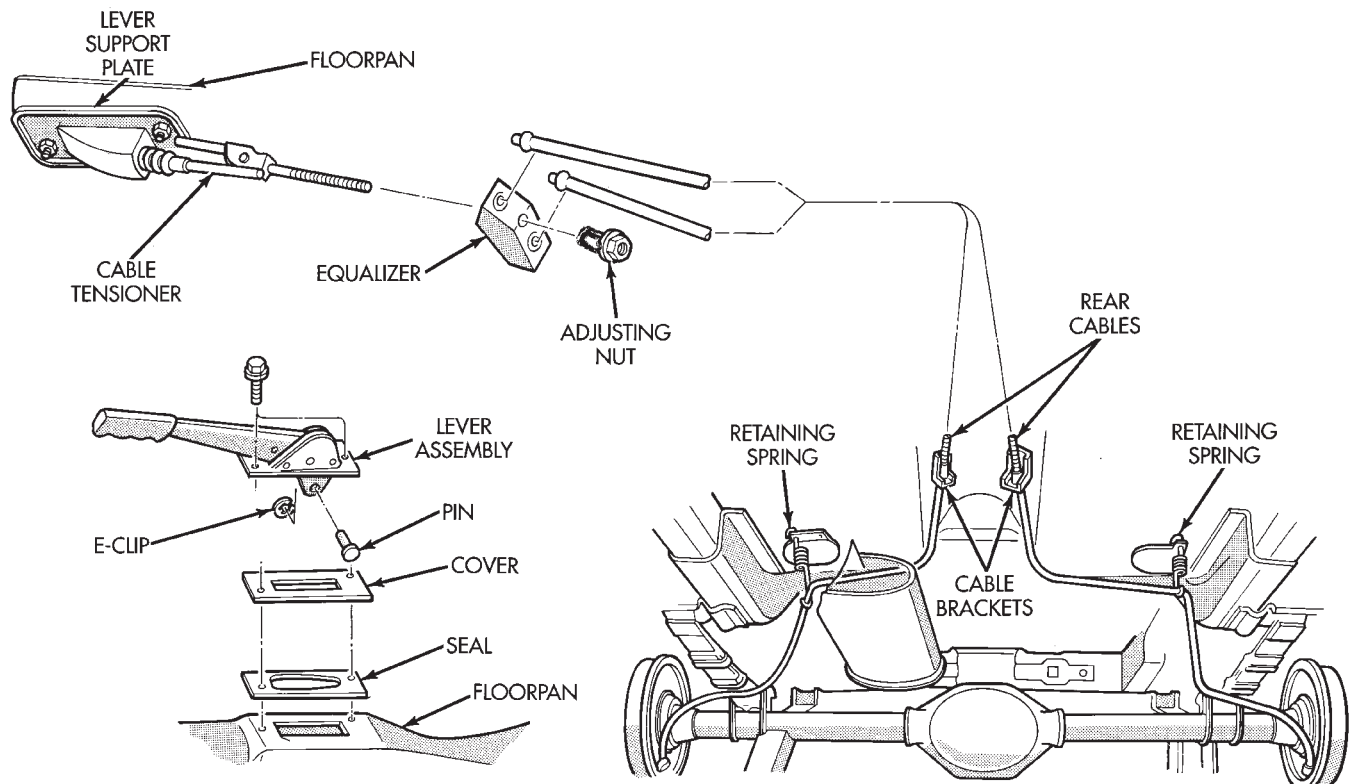
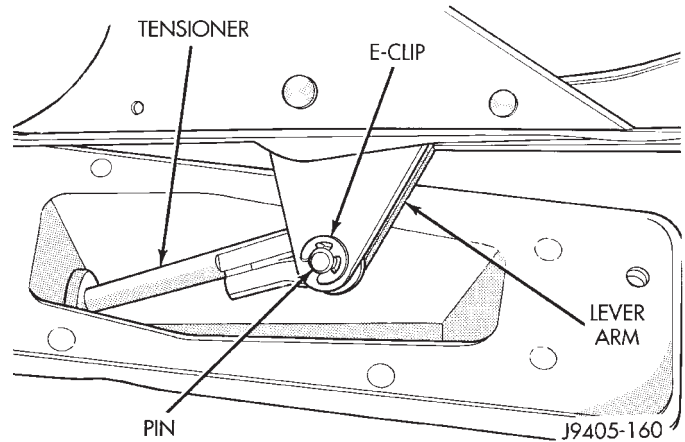

Fig. 2 Parking Brake Components (XJ)
Fig. 3 Tensioner E-Clip And Retaining Pin Location
(1) Position HCU on fender apron (Figs. 2 and 19) and install attaching bolts/nuts.
(2) Connect brakelines to HCU.
(3) Connect harness and sensor wires to HCU.
(4) Connect master cylinder reservoir hoses to HCU.
rectly to the hand lever (a front cable is not used). The tensioner rod is attached to the equalizer which is the connecting point for the rear cables (Fig. 2).
- (1) Release parking brakes, if necessary.
- (2) Raise vehicle.
- (3) Remove adjusting nut from tensioner rod (Fig. 2). Then secure equalizer and rear cables to chassis with wire.
- (4) Remove nuts attaching lever support plate to underside of floorpan. Then move plate aside.
- (5) Lower vehicle.
- (6) Remove lever assembly from floorpan.
- (7) Remove tensioner cover and boot for access to lever arm (Fig. 3).
- (8) Remove E-clip and pin that connect tensioner to lever arm (Fig. 3).
- (1) Assemble lever and tensioner components (Figs. 3 and 4). Be sure E-clip is fully seated in pin (Fig. 3).
- (12) Remove console base.
- (13) Disconnect brake warning light wire connector at lever.
- (14) Remove lever and cable tensioner assembly from floorpan.
- (15) Move cover and boot aside for access to lever arm (Fig. 3).
- (16) Remove E-clip and pin that connect tensioner to lever arm (Fig. 3).
- (1) Assemble lever and tensioner (Figs. 3 and 4). Be sure E-clip is fully engaged in retaining pin (Fig. 3).